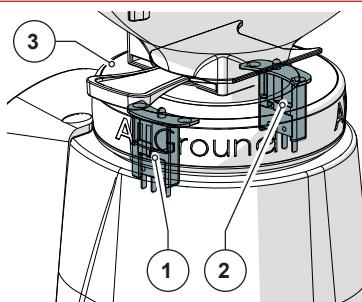

Fig. 7
- 2 microswitches to detect the ring nut position (Fig. 7)**